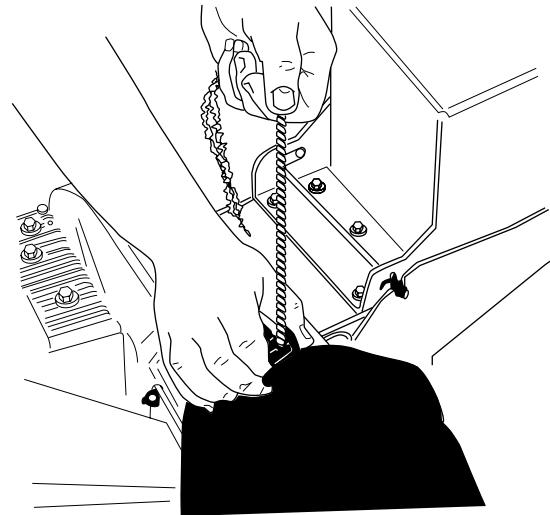

Figure 5
1. To attach the bag, place the opening of the bag over the chute deflector so it completely covers the chute deflector. **See Figure 5**
2. Depress the plunger on the drawstring, and pull on the drawstring until the bag is tight around the chute opening. Release plunger to lock it into position. **See Figure 5**